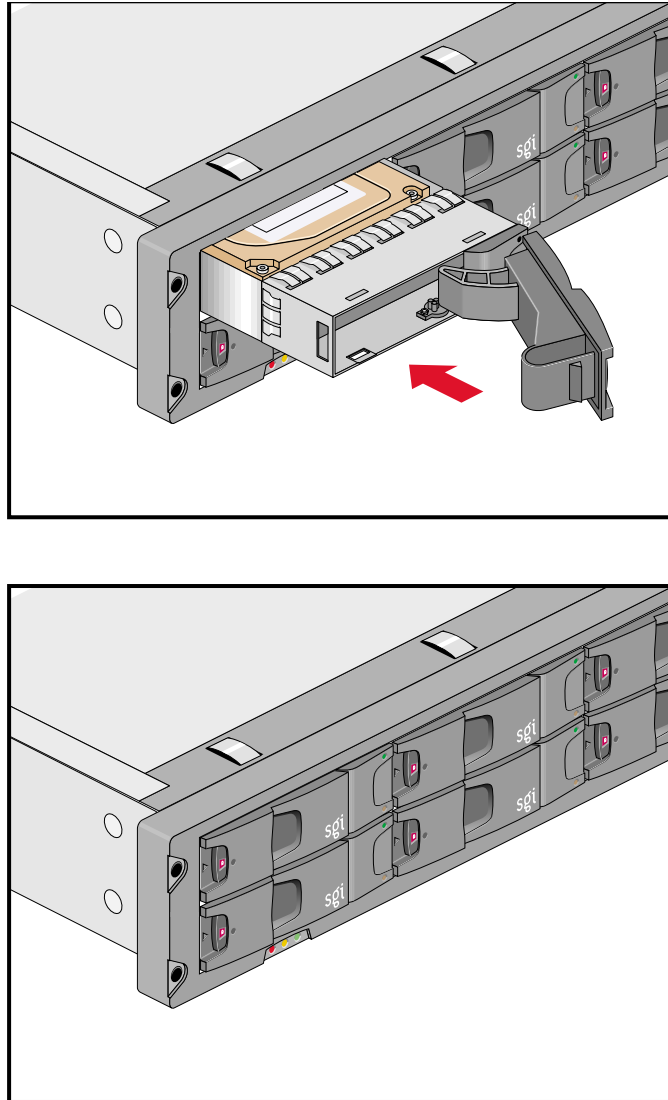

Figure 3-6 Carrier Camming Lever
6. Gently slide the carrier all the way into the enclosure until it is stopped by the camming lever on the right of the carrier, as shown in Figure 3-6.